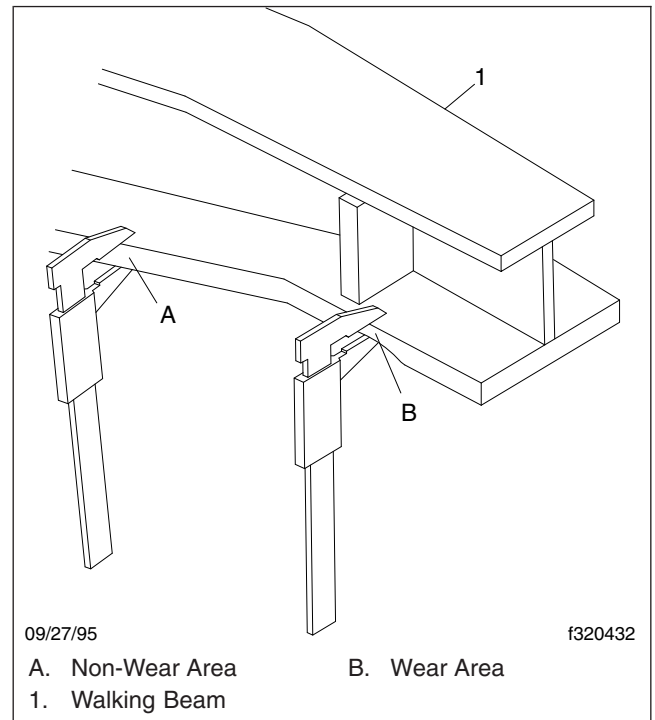

Fig. 7, Walking Beam End Wear Thickness
- Manipulate the walking beam so that a micrometer, vernier, or dial caliper can be used to determine the wear area thickness on the bottom face. See Fig. 7. Measurements should be taken a minimum of 1/2 inch from the beam flange edges to eliminate any edge wear that may have occurred. Subtract the wear area thickness (see Fig. 7, Ref. B) from the thickness at the non-wear area (see Fig. 7, Ref. A) to determine the amount of wear.